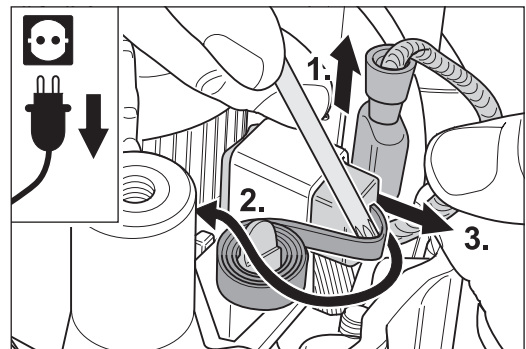

Fig. 49 Pull off the connector (1.), turn the brass pressure clamp to the side (2.) and remove the carbon brush (3.).
- 4 Pull off the connector of one of the carbon brushes from the carbon holder (Fig. 49, 1.).
- 5 Turn the brass pressure clamp of the carbon holder to the side using the universal spanner (Fig. 49, 2.) and remove the worn-out carbon brush (Fig. 49, 3.).